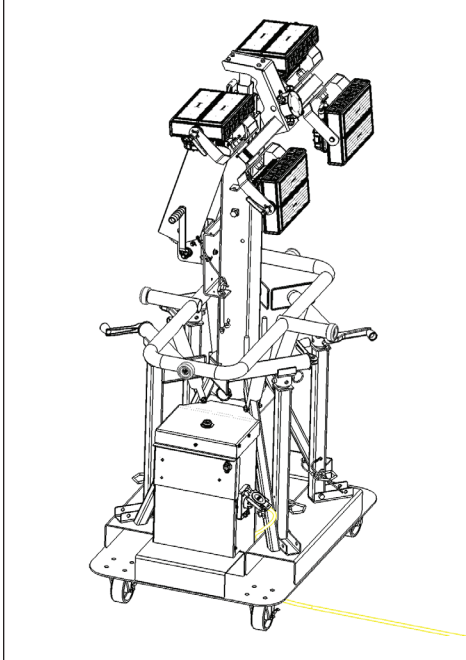

Figure 4
Before transporting, make sure that the portable light tower is in the transport position (Figure 4):
4. Pull the light arm pin, and rotate the light arm until the light fixtures are as shown in Figure 4. Make sure that the locking pin engages one of the holes after adjusting. Repeat for the other light arm. See **Adjusting the Light Fixtures**.